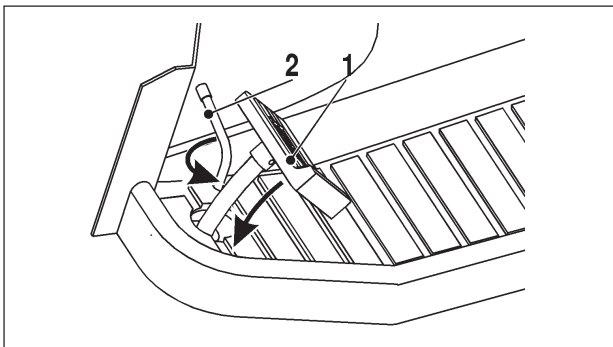

Fig. 14
3. Depress fully, and hold the brake pedal (fig. 14, pos 1).
BRAKE (FIG. 14)
The parking brake lever is used to lock the brake pedal in brake position (fig. 14; pos. 2).